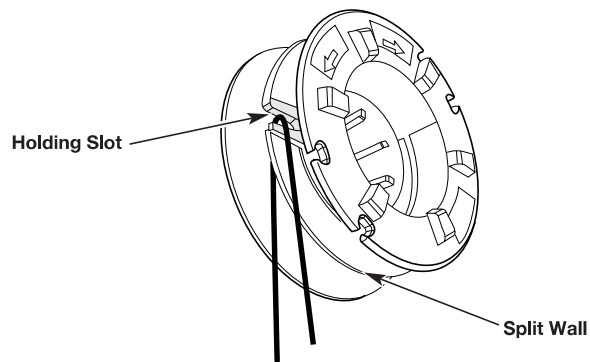

Fig. 16
4. Bend the line at the midpoint and insert the bend into the holding slot on the spool (Fig. 16).